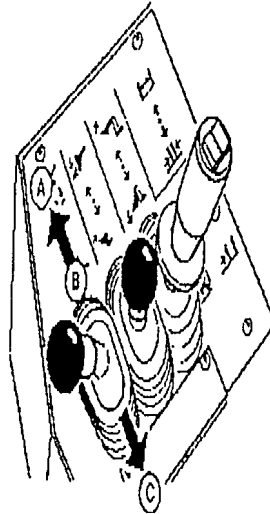

Figure 1-5
e. The following control, figure 1-5, is the lift/lower control of your carriage.